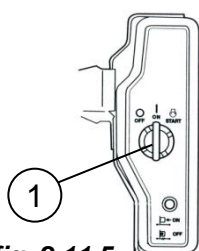

fig. 2.11.5
Start and stop the combustion engine: turning the switch to the right the engine starts and to the left the engine stops (pos.1 fig. 2.11.5).